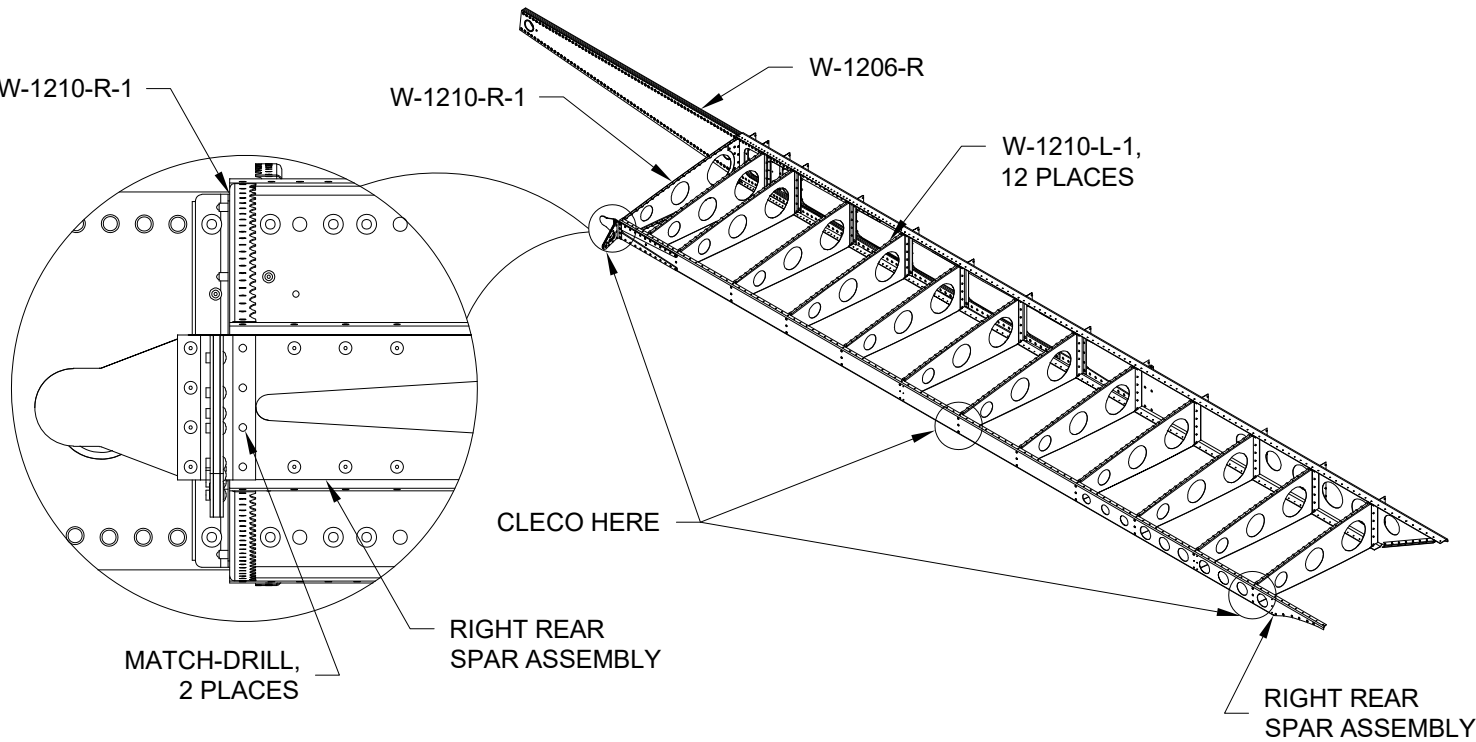

FIGURE 3: MATCH-DRILLING MAIN RIB AFT FLANGE
Step 8: Cleco the Right Rear Spar Assembly to the aft flanges of the W-1210-1 Main Ribs as shown in Figure 3.
Step 9: Match-drill #30 the hole locations in the aft flange of the main rib as shown in Figure 3. Remove clecos and Rear Spar Assembly and deburr match-drilled holes as required.